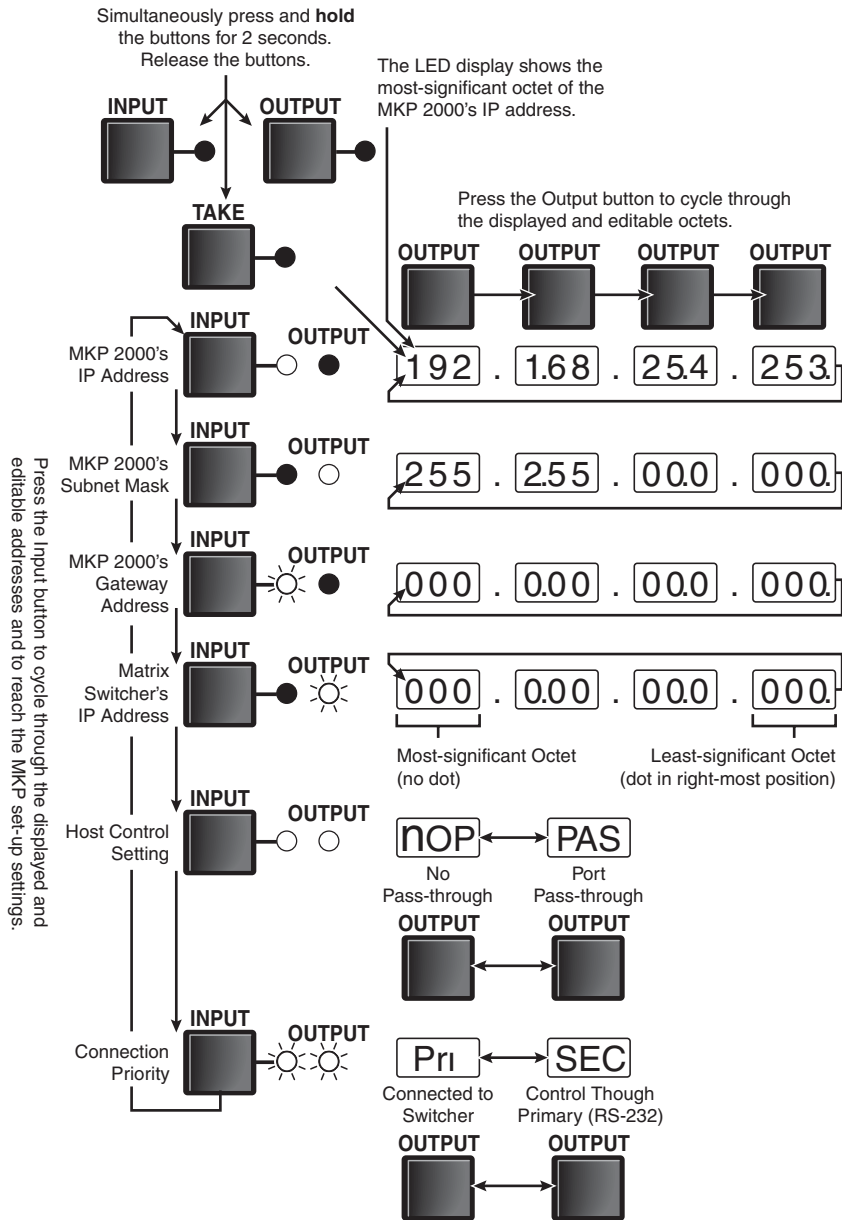

Figure 3-2 — Selecting octet fields and host control
- The LED display shows the most-significant (left-most) octet of the MKP's IP address (figure 3-2 on page 3-6).
- Pressing the Input button changes the IP address shown in the LED display, cycling through the various IP addresses, and then selects the host control setting, as shown in figure 3-2.
- Pressing the Output button changes the octet of the selected IP address that is shown in the LED display, cycling through the four octets as shown in figure 3-2.